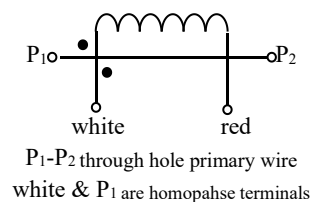

Figure 2
- ② The coil diagram is shown in Figure 2: